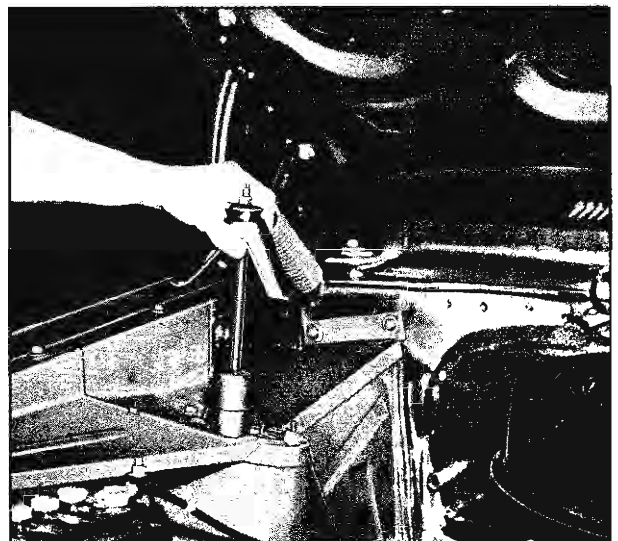

Fig. 15—Removing Shock Absorber and Bracket—Chevy II
4. Remove shock absorber upper mounting bracket bolts. Lift bracket and shock absorber assembly from vehicle (fig. 15).